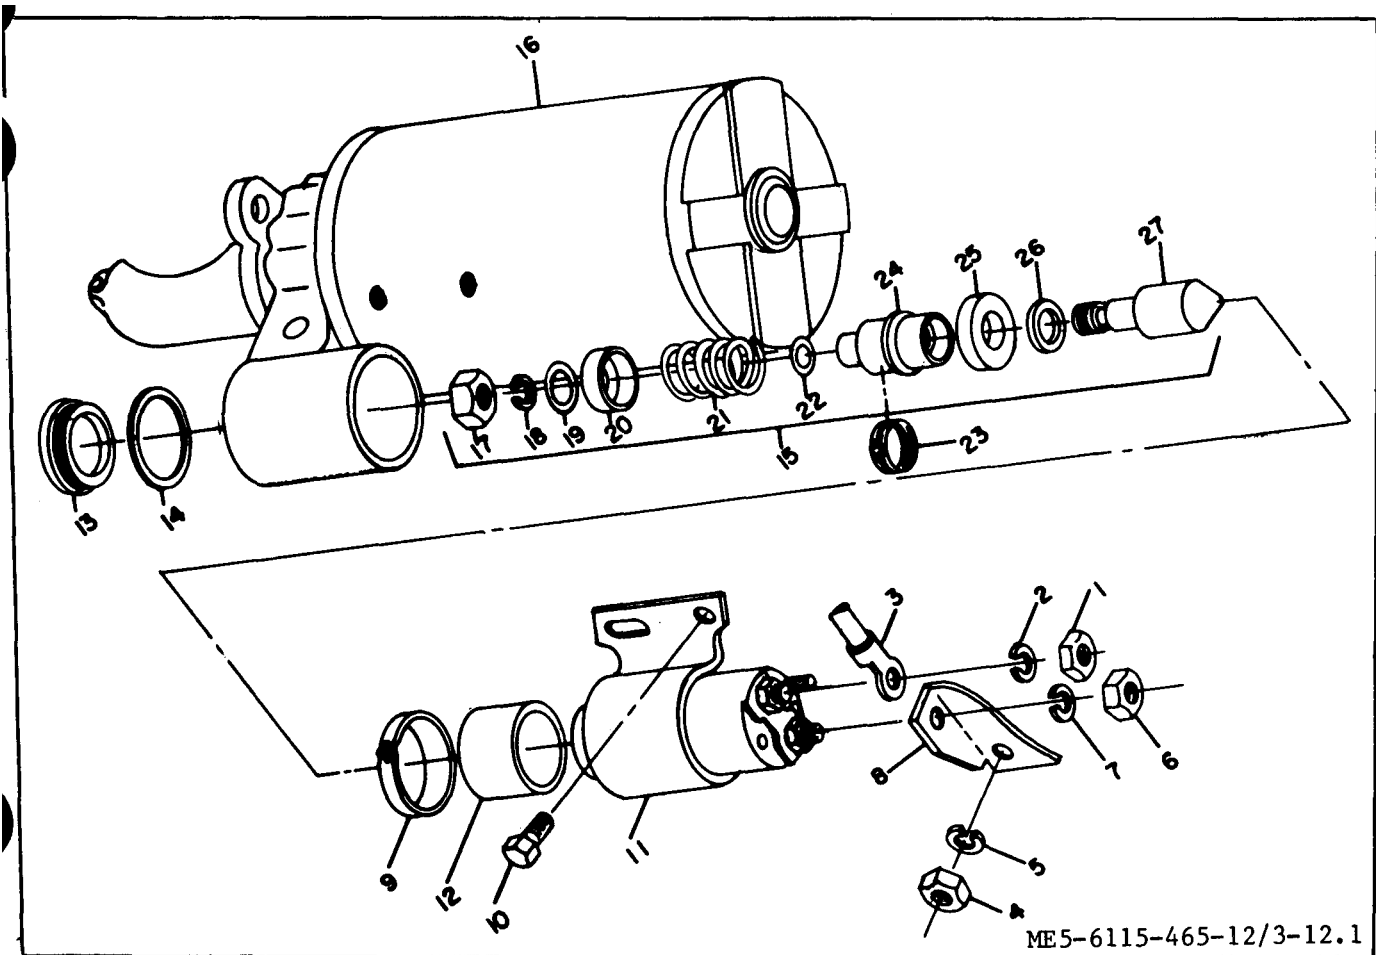

Figure 3-12.1. Starter Solenoid Replacement.
(a) Remove nut (1, figure 3-12.1) and lockwasher (2) to disconnect electrical lead (3).
Maintain proper polarity when connecting multimeter. Electrical lead (3, figure 3-12.1) is positive lead.